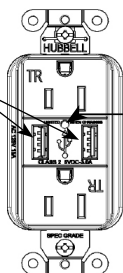

Fig. 3
- (2) A USB port receptacle (Fig.3)
- (2) A ports USB prise (Fig.3)
- (2) A puertos USB tomacorriente (Fig.3)